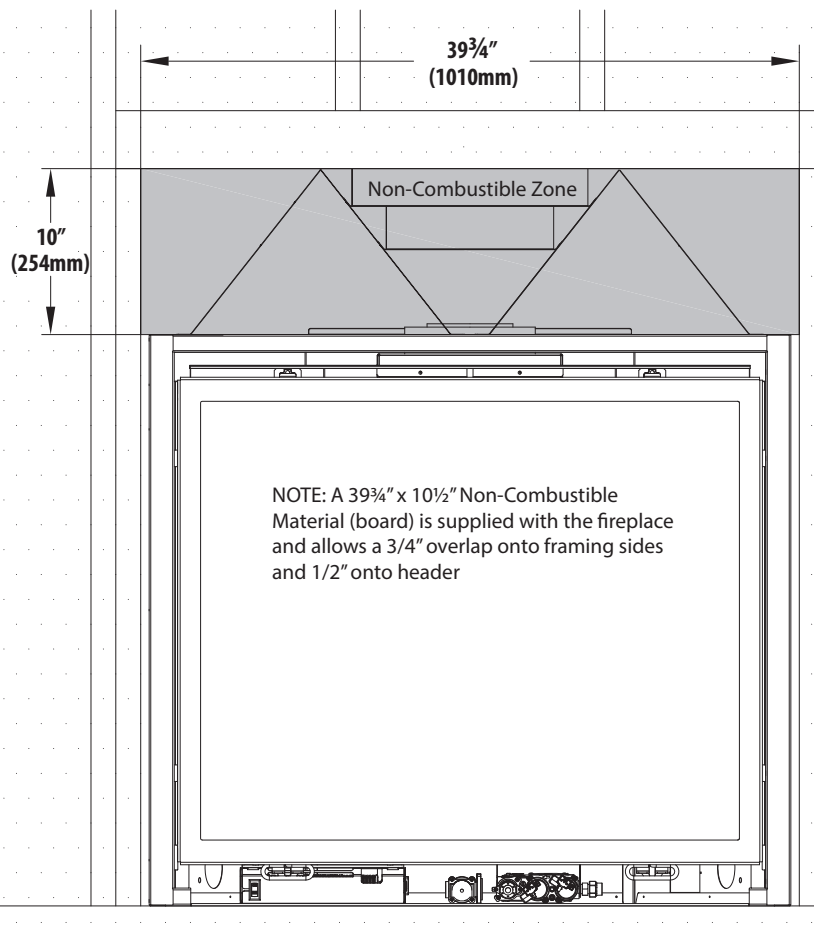

Figure 4.3, Non-Combustible Zone
- This appliance is shipped with a 1/2" thick non-combustible material (board) that overlaps the header and the sides of framing. See Figure 4.3, Non-Combustible Zone on page 20.